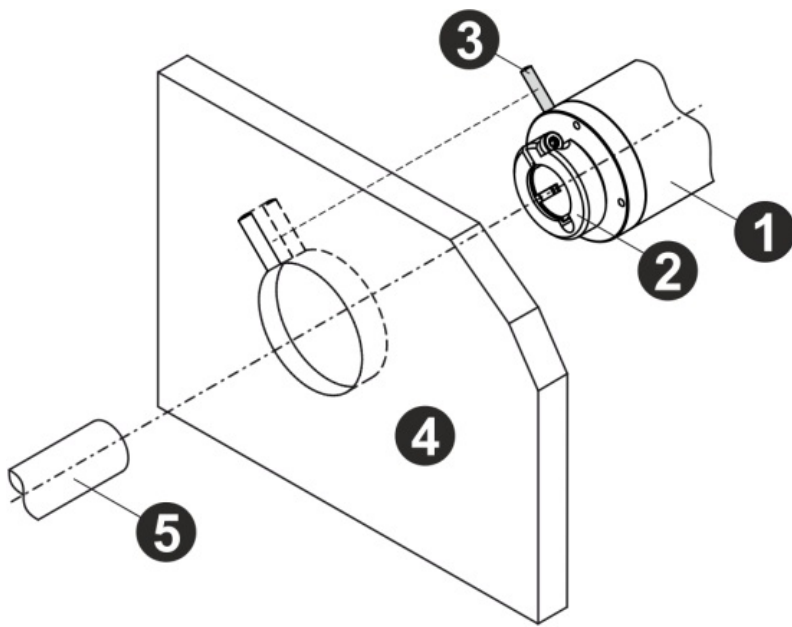

Figure 9: Mounting with lateral dowel pin and customer-side groove, principle illustration
- The rotation of the measuring system housing is prevented by a locating pin on the side of the measuring system and a groove in the machine on the customer side. See Figure 9.